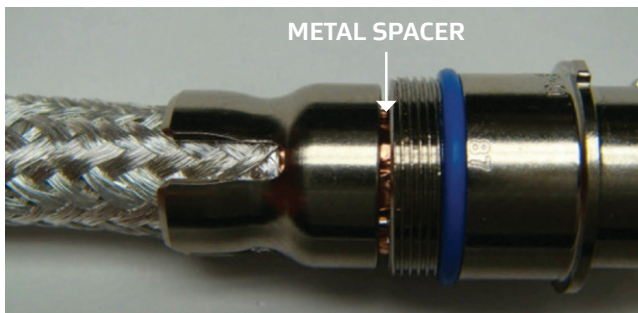

Figure 21: Seating the inner ring
14. Remove the tape holding the backshell and inner ring. Slide the inner ring over the braid and wires until it seats over the metal spacers (Figure 21).